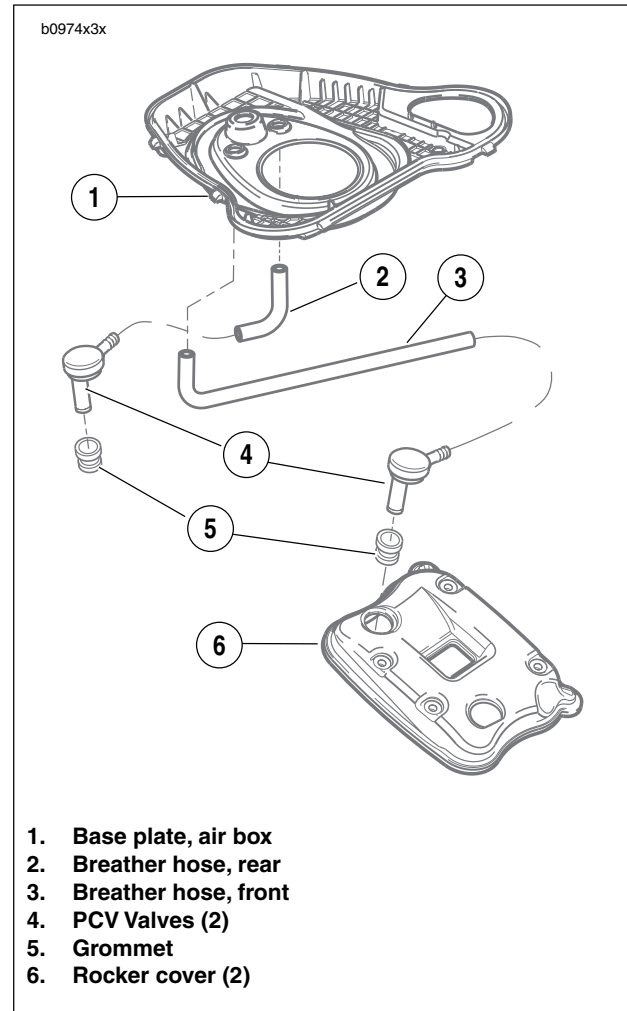

Figure 3-113. Crankcase Breathing System
See Figure 3-113. Air is allowed to escape the rocker boxes by exiting the positive crankcase vent (PCV) valves (4) located on top of the rocker boxes. From the PCV valves the air enters the crankcase breather hoses (2 & 3). The crankcase breather hoses route through the air cleaner base plate (1) to the air box where it is directed inside the air filter element and back into the engine.